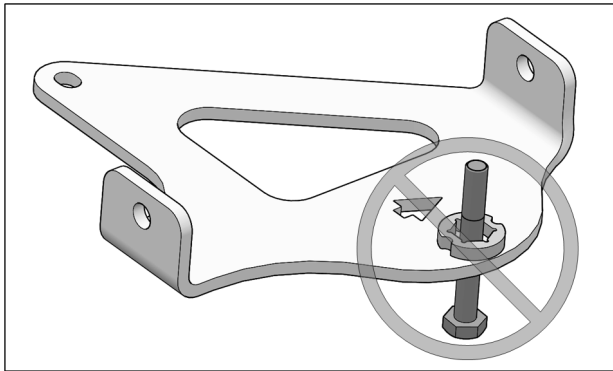

Fig. 5
**CAUTION: Make sure that the bolt is inserted in the right direction. See Fig. 5**